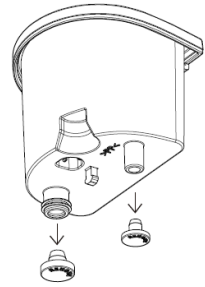

Figure 1
3. Remove the sealing cover from the new anti-scale cartridge (Figure1).